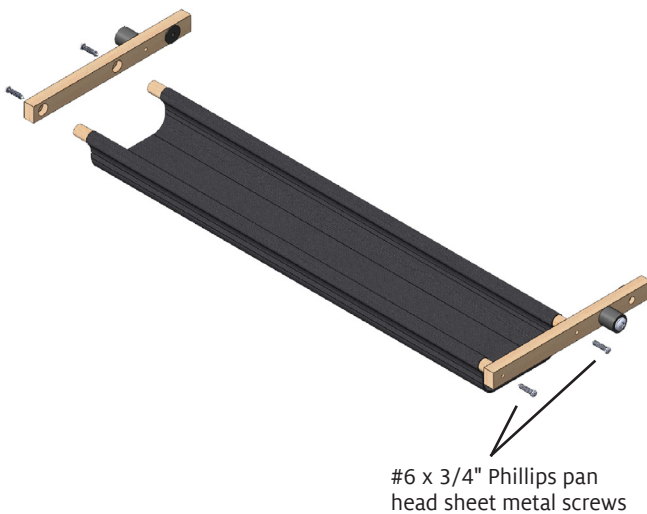

FIGURE 3: ATTACH DOWELS
3. Lay out the parts on a work surface as shown in Figure 3: dowels and trap cloth in the middle, trap sides with supports facing outward on either side. Using #6 x 3/4" Phillips pan head sheet metal screws, attach the trap sides to the dowels.